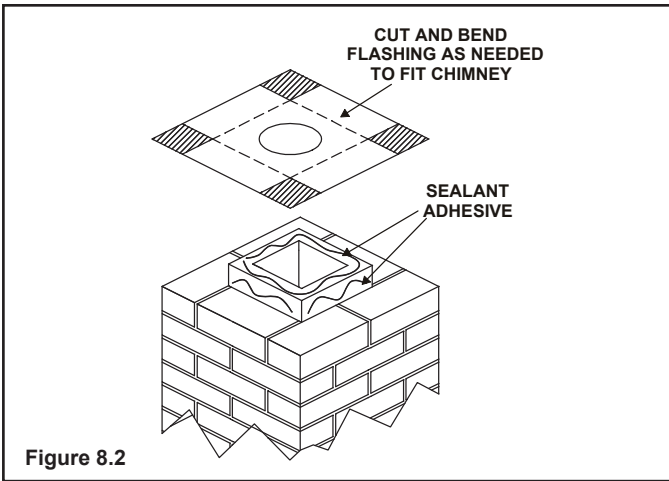

Figure 8.2
- Trim chimney top plate to minimize excess overhang or bend over flue tile (see Figure 8.2).
- Place 3/8 in. (10 mm) bead of 149 °C (300 °F) silicone on flue tile top. See Figure 8.2.